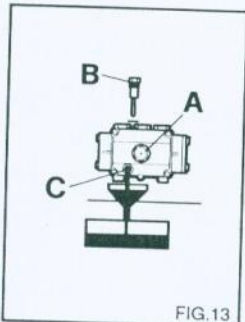

FIG.13
- 1) Unscrew the drain cap situated under the pump (fig. 13 C).
- 2) Unscrew the cap with the dipstick (fig. 13).